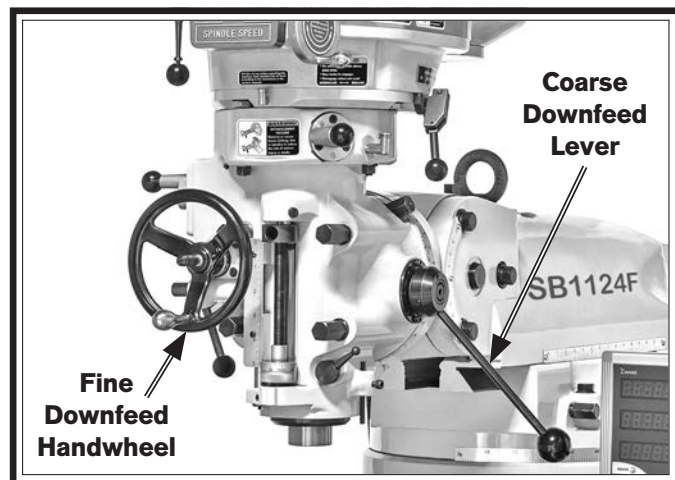

Figure 20. Coarse downfeed lever and fine downfeed handwheel installed.
5. Install coarse downfeed lever and secure with set screw (see **Figure 20**).
6. Install fine downfeed handwheel (see **Figure 20**).